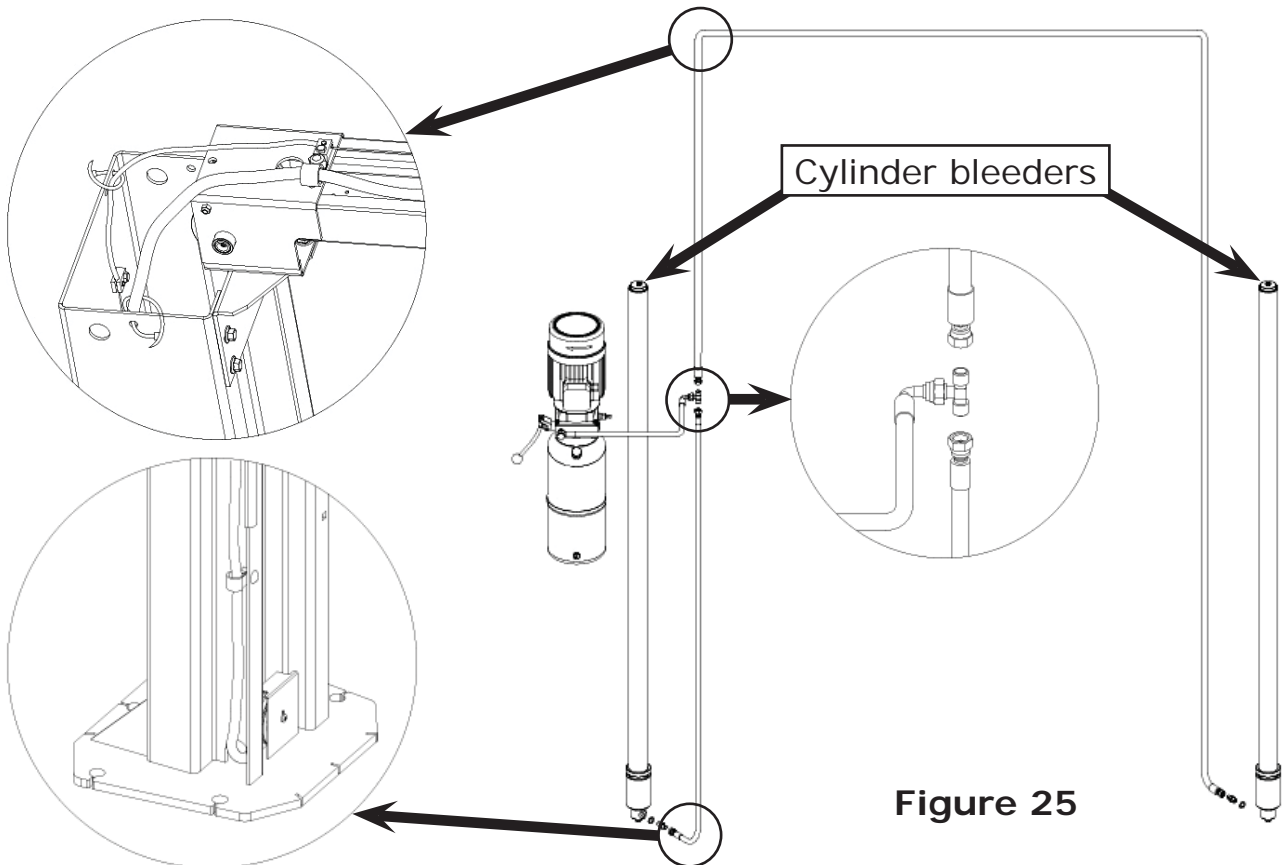

Figure 25
- Install hose clamps and route the hoses referring to figure 25;
- Open the bleeder of each cylinder approximate two turns (ref. fig. 25):